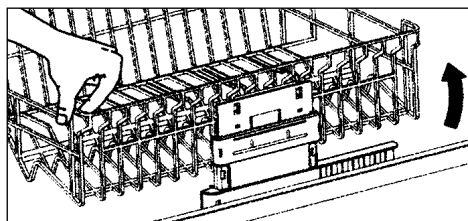
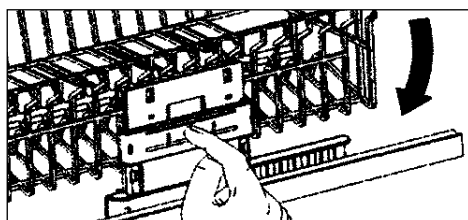

fig. 9
fig. 10
- Pull the basket out the limit position and pull its right-hand side up to allow larger plates to be placed in the bottom basket (see fig. 9). To return to the original position, pull the basket out again and press the release lever (see fig. 10).